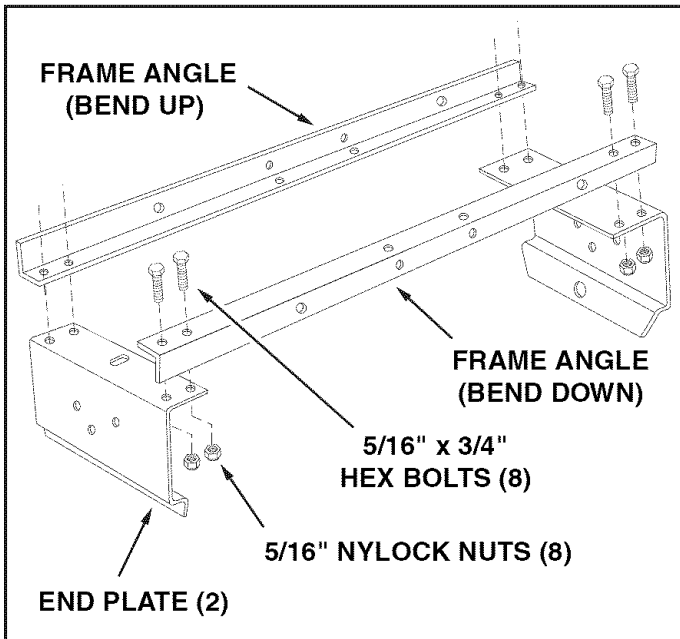

FIGURE 1
- Assemble the two frame angles (one with the bend up and the other with the bend down) to the two end plates using eight 5/16" x 3/4" hex bolts and eight 5/16" nylock nuts. Make sure that the frame is squared up, and then **tighten**. See figure 1.